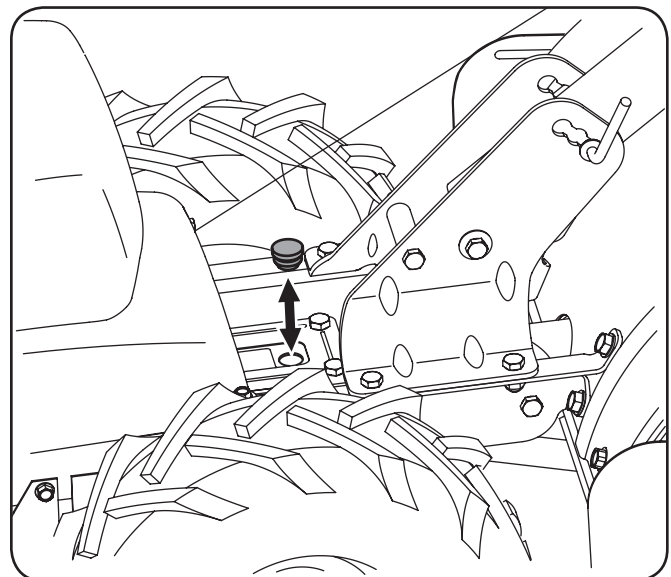

**Figure 6-1**
3. Remove the oil fill plug from the transmission housing and look inside the oil fill hole to locate the main drive shaft situated below the hole. See Figure 6-1.